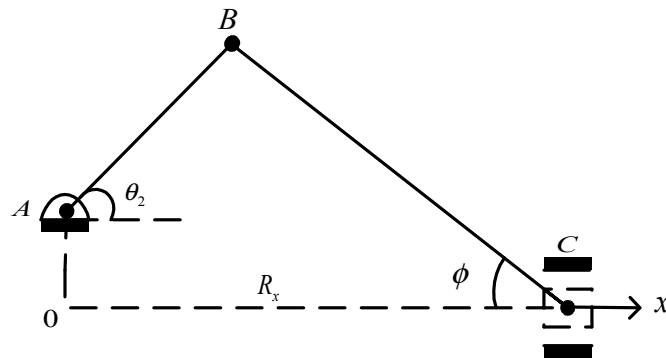

Fig. Q1(b)
- (ii) The offset slider-crank mechanism in Figure Q1(b) is driven by a rotating crank 2. Suppose $AO = 1$ inch, $BA = 2.5$ inches and $CB = 7$ inches, write down the loop closure equation and thus solve for the position of the slider 4 as a function of θ_2 . **(6 marks)**